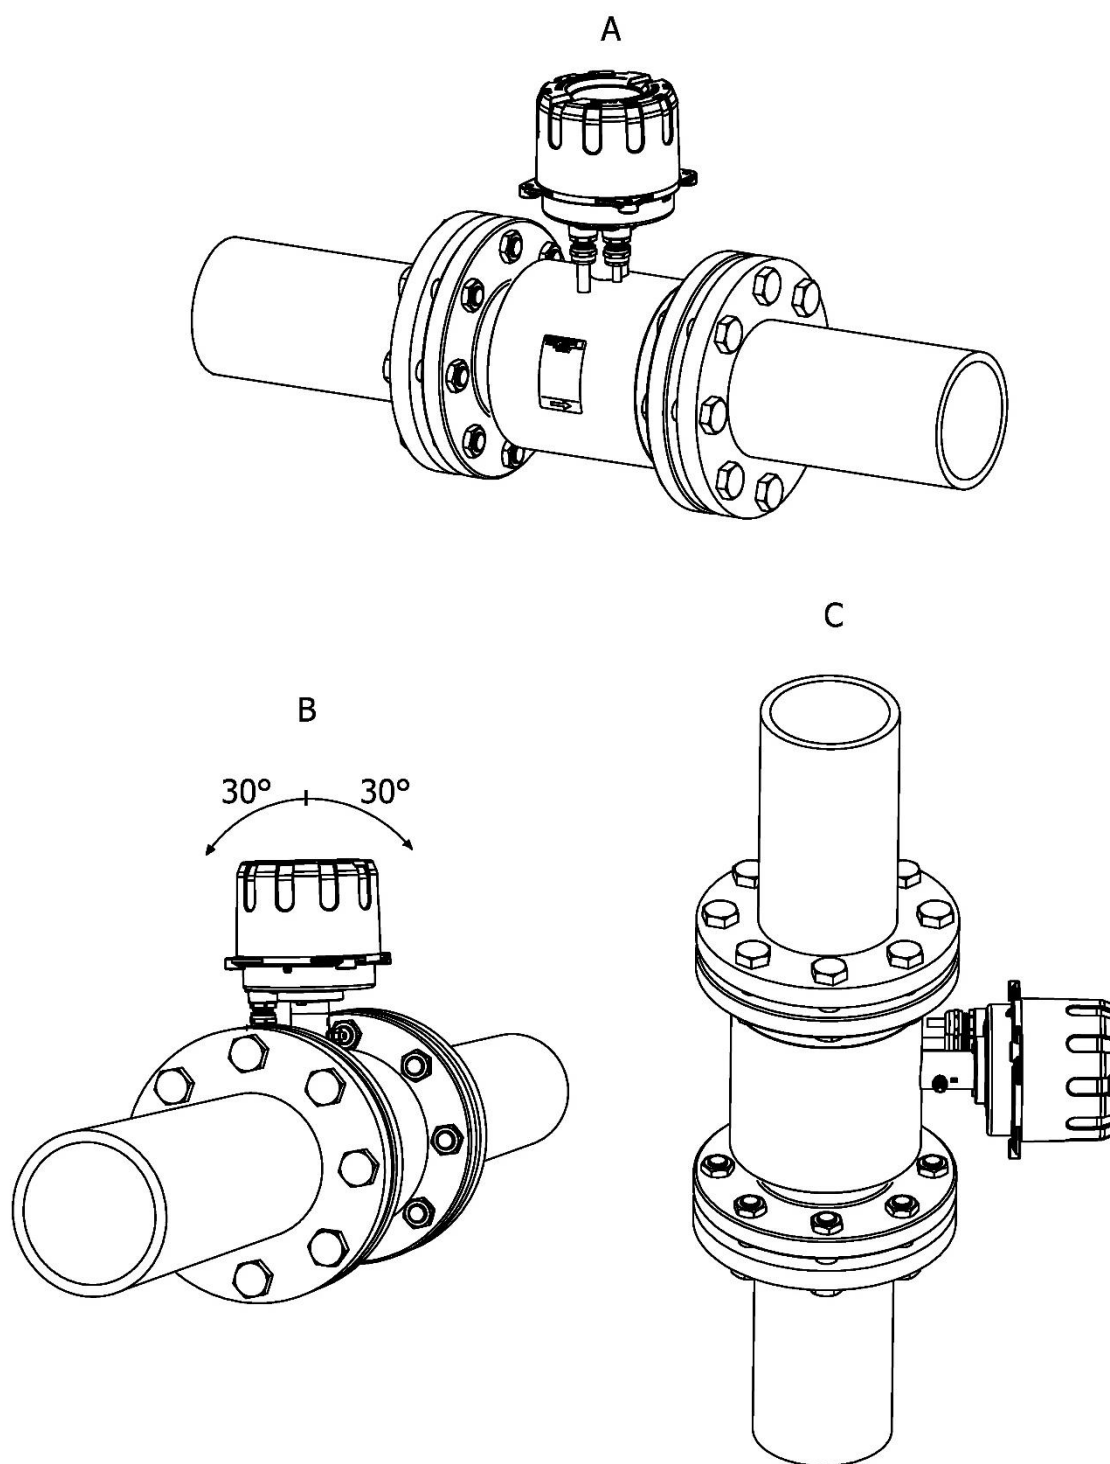

Figure 5. Installation of the PEM-500 flowmeter – examples.
- it is recommended that the flowmeter be installed so that the axis of the electrodes is as horizontally as possible as shown by the examples in → Figure 5;
It is recommended to install the flowmeter in the horizontal (A) position (it is possible to deviate from the horizontal plane by approx. 30° (B)) and in the vertical (C) position – according to the examples presented in Fig. 5. Otherwise, it is possible to generate an empty pipe detection alarm when there is air in the system (one of the electrodes is not immersed).